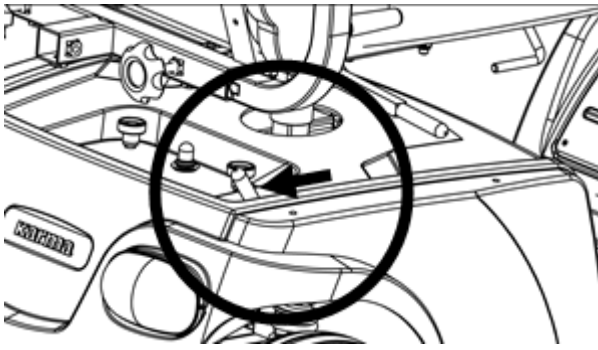

Figure 5.6 Drive Mode
5.12.1 Drive Mode: pull the lever completely towards the rear and the scooter can be driven by motor power. (See Figure 5.6).